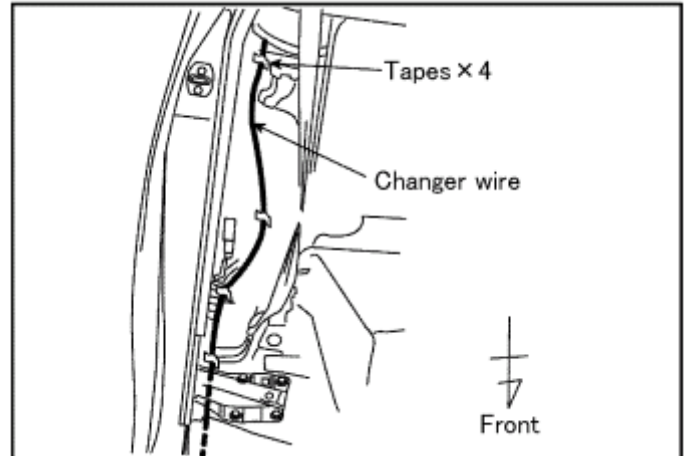

Figure O1
- ➡ 1. Route Changer wire along rear wheel well and through duct hole to trunk area. (Figure O1)
- ➡ 2. Take up slack and place tape on harness in positions shown. (Figure O1)